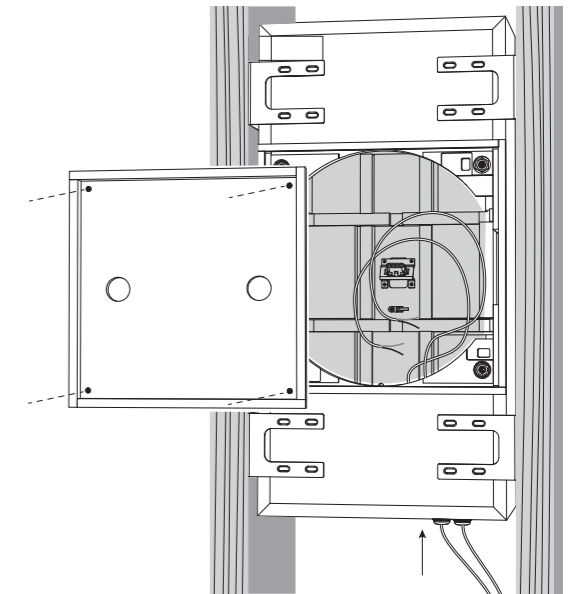

Fig. 3. Speaker Wire Installation.
1. Remove the cover from the back can by undoing the four screws holding it in place (Fig. 3).
2. Install the speaker wire in through one of the cable glands, and leave enough slack to make the connections (Fig. 3). Tighten the cable gland, and tie down the speaker cable to prevent it moving and rattling in operation. Make sure that the speaker cable does not come into contact with nails or screws that might damage the insulation. A second cable gland is provided to allow a second speaker cable run to be installed.